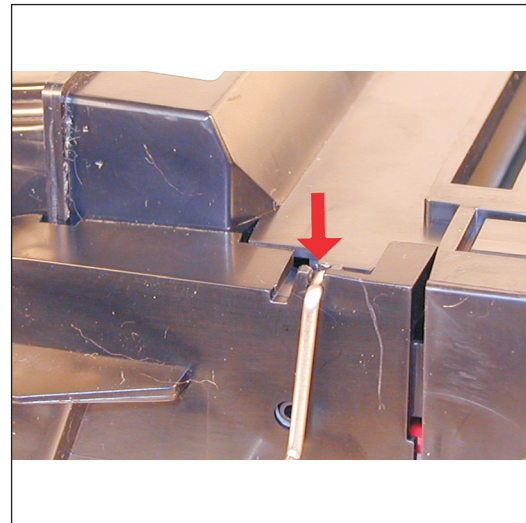

Figure 38
31) Install the two drum cover bars. Snap them in place. See Figure 38